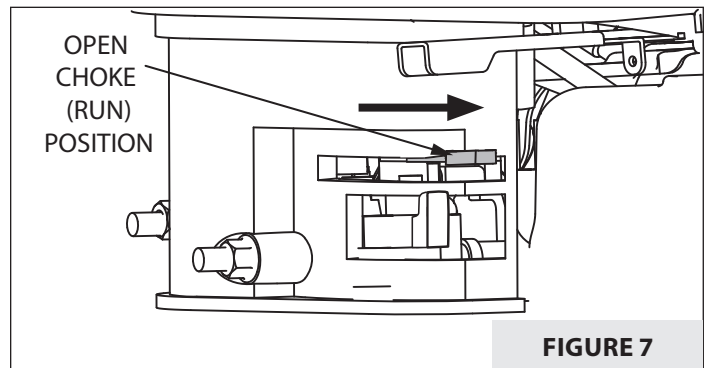

FIGURE 7
11. Once engine is warmed up, slowly move the choke lever to the **RUN** position. **SEE FIGURE 7.**